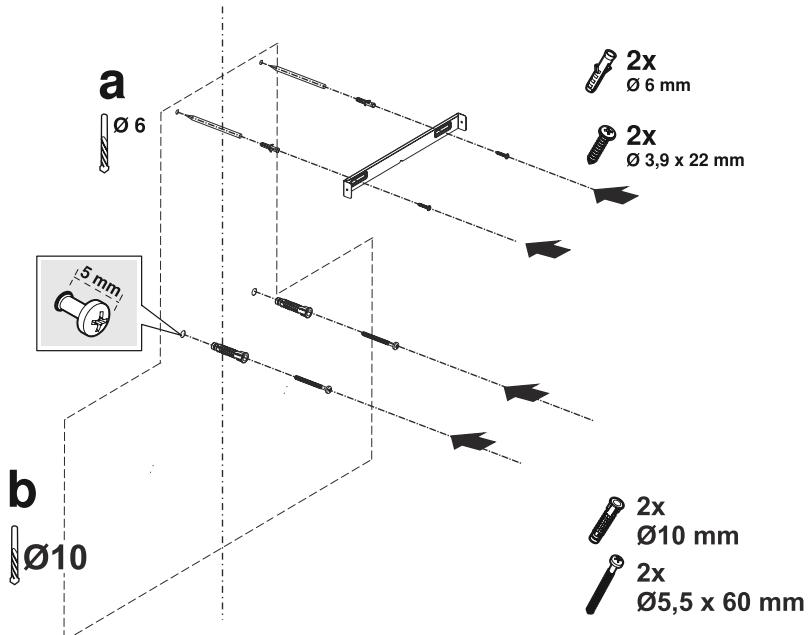

Fig. 11
1. ➤ Draw a mid location line from the ceiling perpendicular to the lower edge of the hood (Fig. 11).
2. ➤ There is a tab in the middle of the flue connection plate. Place the middle point of this tab on the line that is drawn perpendicular to the wall. Align horizontally and mark the holes where the connection plate will be mounted via a pen (Fig. 11/a). Drill the marked points with Ø6mm drill and insert 2 plastic dowels in the drilled holes (Fig. 11/a). Fix the flue connection plate to the wall with 3,9x22 screws (Fig. 11/a).
3. ➤ To drill the suspension holes of the flue, place the mounting template on the surface where the appliance will be mounted on and mark the mounting holes (Fig. 11/b).
4. ➤ Drill the suspension holes with Ø8mm drill and place the dowels (Fig. 11/b).
2 piece 4,9x950 suspension screw with a clearance of 5 mm between the screw head and the wall (Fig. 11/b).